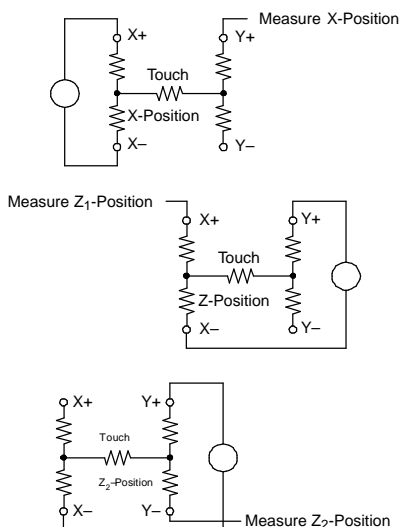

Figure 46. Pressure Measurement
Measuring touch pressure (Z) can also be done with the TSC2301. To determine pen or finger touch, the pressure of the *touch* needs to be determined. Generally, it is not necessary to have very high performance for this test, therefore, the 8-bit resolution mode is recommended (however, calculations are shown with the 12-bit resolution mode). There are several different ways of performing this measurement. The TSC2301 supports two methods. The first method requires knowing the X-plate resistance, measurement of the X-position, and two additional cross panel measurements (Z2 and Z1) of the touch screen (see Figure 46). Using Equation 1 calculates the touch resistance: